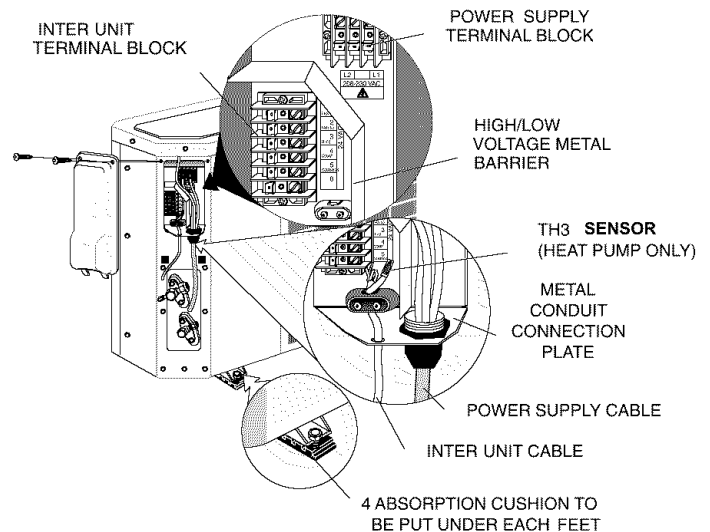

Fig. 12 — Legs Mounting Base and Wiring
2. Fasten the outdoor unit legs to the mounting base, as shown in Fig. 12. The cushion goes between the legs and the mounting base.